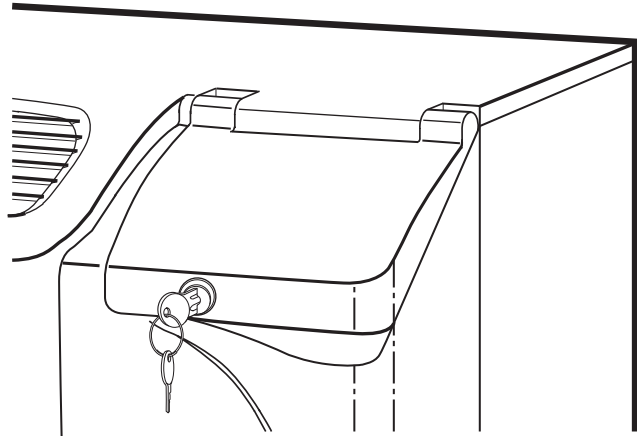

Fig. 5 — Completed Assembly
2. Close and lock door. See Fig. 5.